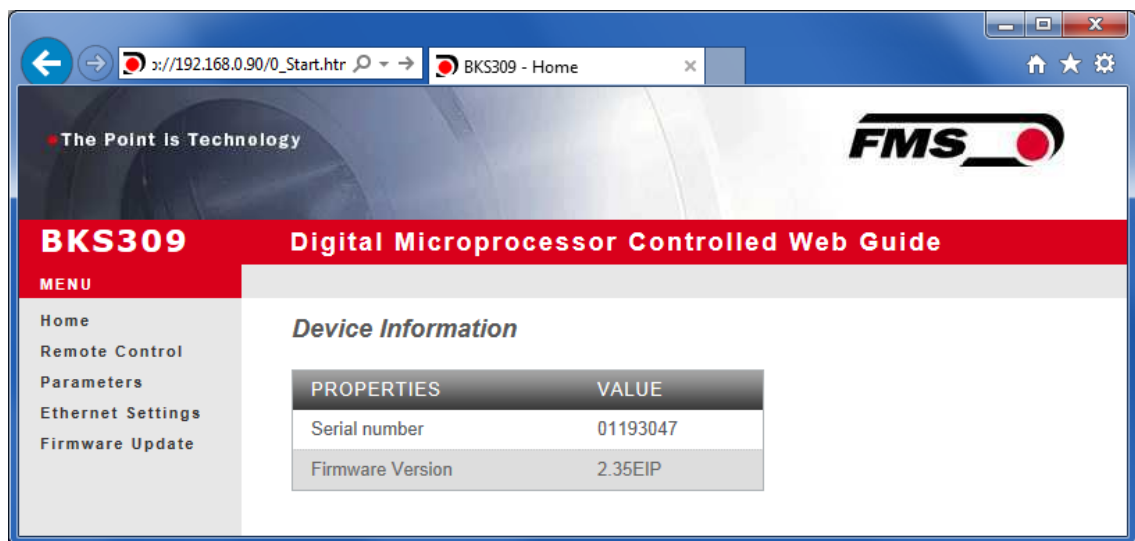

Fig. 27: Serial number and device information
Once the BKS309.EIP was integrated in the network you can address the device e.g. with <http://192.168.0.90> . After establishing the link, the screen Fig. 27 will open up.
4. The screen **Fig. 27** will open up. Continue then with the procedure described in **11.1** “Parametrization in a Network via a Web Browser”.